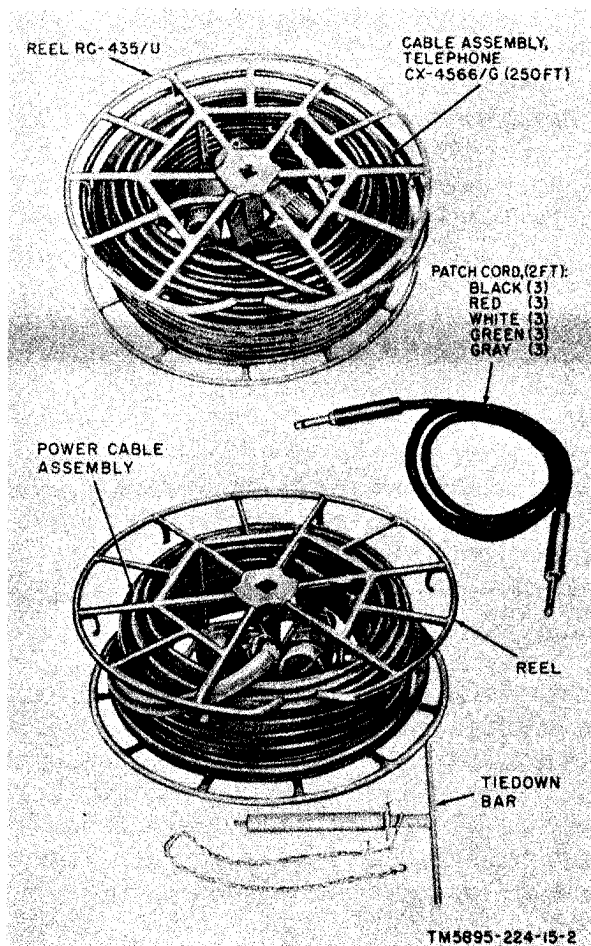

Figure 3. Shelter, Electrical Equipment, S-184/MSC-32, cable assemblies, reels, and patch cords.
- (1) Power cable assembly and reel (fig. 3). The power cable assembly is wound on a reel, which is secured to the floor at the front of the shelter (fig. 7 and 15). It is a 100-foot, 3-conductor cable with a watertight power connector on each end.
- (3) *Cable Assembly, Telephone CX-4566/G and Reel RC-485/U* (fig. 3). The CX-4566/G is 250-feet long and is equipped with a 26-pair cable connector on each end.
- (6) *Patch cords* (fig. 3). The patch cords are two-conductor cords, equipped with telephone plugs at each end.